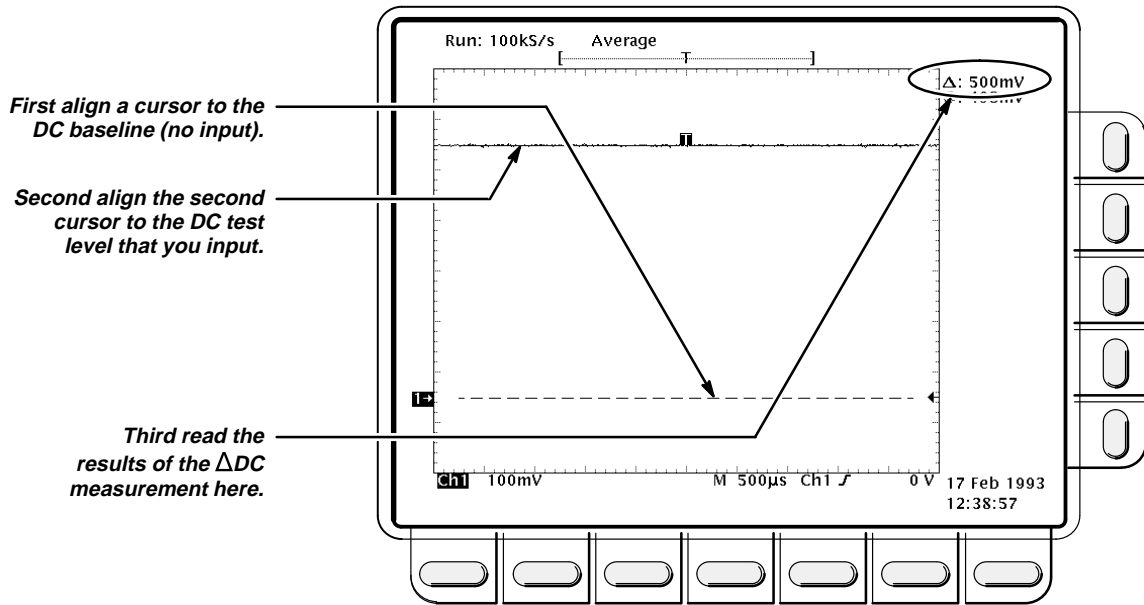

Figure 1-6: Measurement of the DC Accuracy for Delta Measurements
- Press **CLEAR MENU**. Read the measurement results from the delta (Δ) readout, not the absolute (@:) readout. See Figure 1-6 on page 1-28.
- d. *Check against limits:* CHECK that the Δ : readout on screen is within 485 mV to 515 mV (see Figure 1-6).